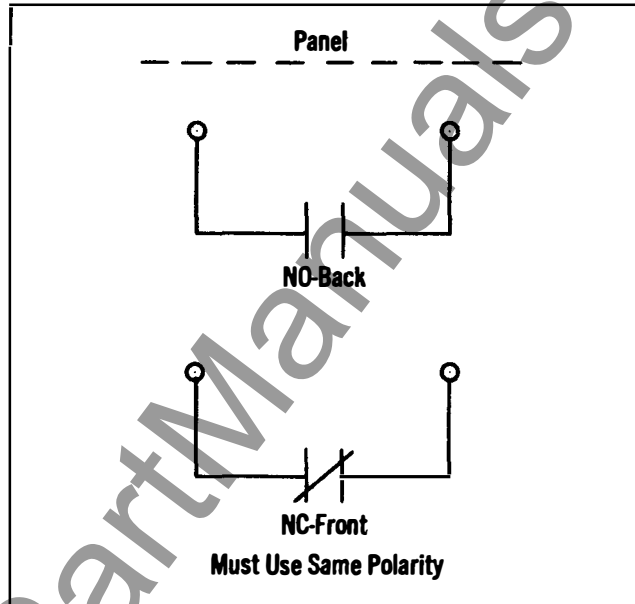

Fig. 3 Internal Wiring Diagrams
5. Internal wiring shown in Figure 3.